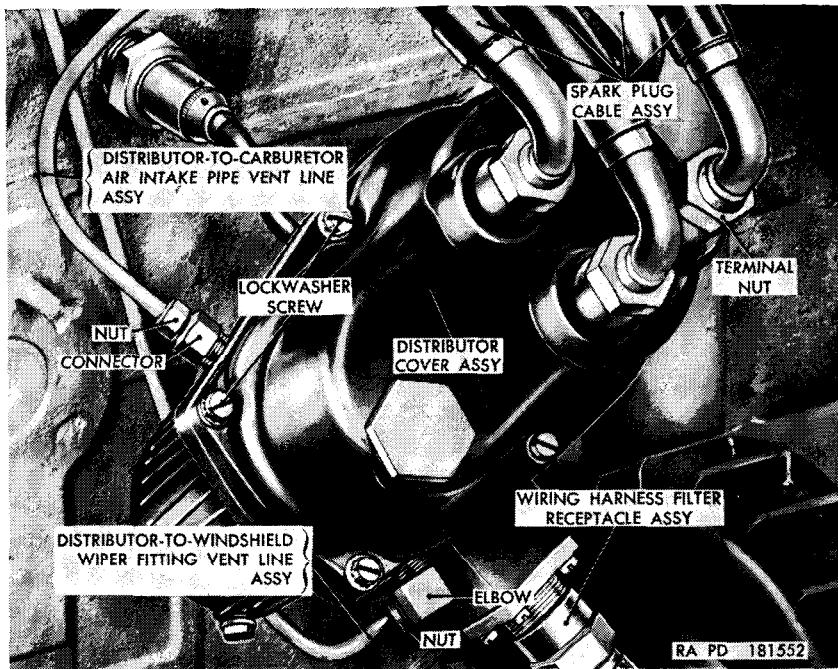
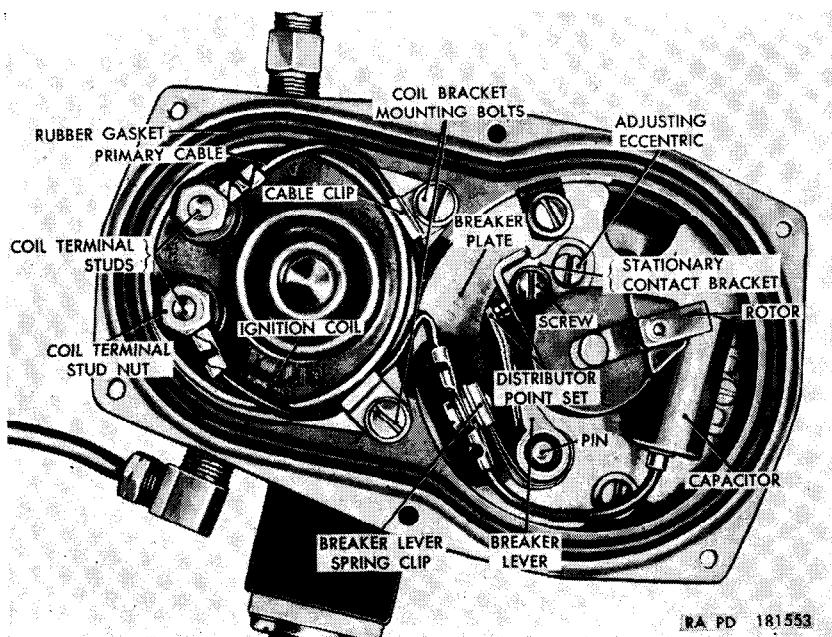
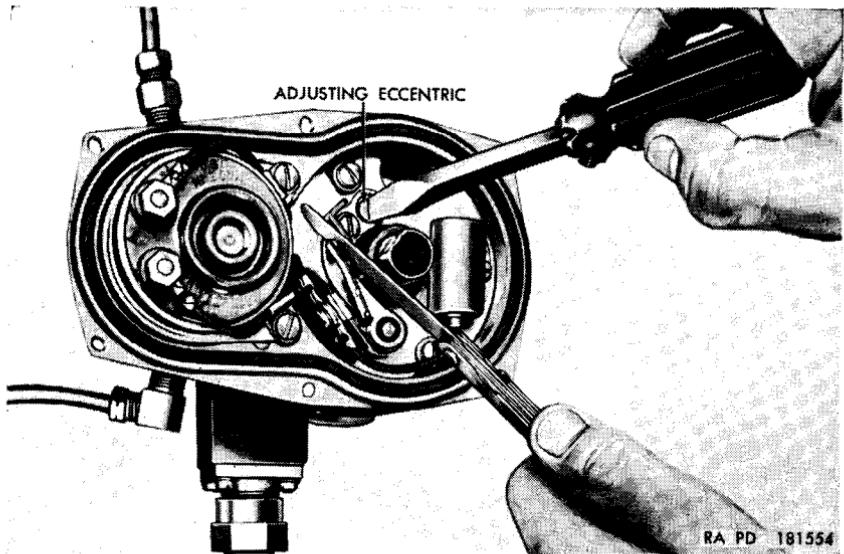

Figure 55. Distributor with coil assembly—installed.
Figure 56. Distributor with coil assembly—distributor cover and cap assemblies removed.
Figure 57. Adjusting distributor point set.
- (2) *Distributor with coil assembly* (fig. 55). The distributor, capacitor, and ignition coil comprise a single unit with automatic spark advance built-in to vary the ignition timing for most efficient operation. The assembly is located on the right side of the engine and is driven from the camshaft.
- (3) *Spark plugs.* The 14-mm spark plugs are shielded and waterproof, with built-in resistors for radio interference suppression.
- (4) *Spark plug cable assemblies* (fig. 55). The spark plug cable assemblies are fully shielded and waterproof, with threaded connectors on each end.
b. Mark the position of No. 1 spark plug cable assembly (fig. 55) on the side of the distributor with coil assembly, to aid in determining the position of the distributor rotor after the distributor cover and cap assemblies are removed.
c. Remove six lockwasher screws securing the distributor cover and cap assemblies (fig. 55) and remove the assemblies. Turn the crankshaft until the distributor points are open, with the breaker lever (fig. 56) on one of the four high points of the cam. Loosen the screw securing the stationary contact bracket to the breaker plate. Adjust the point gap by turning the adjusting eccentric (fig. 57) until a 0.020-inch feeler gage will enter between the points with a slight drag on the gage. Tighten the screw securing the stationary contact bracket to the breaker plate and again check the point gap.
d. On early production vehicles, turn the crankshaft with a crank, or suitable socket wrench, until the distributor rotor points to the mark (b above) and the timing mark "5 BTC" on the flywheel is alined with the pointer in the timing hole in the flywheel housing. On late production vehicles, aline the hole in the back of the fan and generator drive pulley (fig. 57) with the "5" mark on the timing gear cover (fig. 57).
f. Be sure that the rubber gasket (fig. 56) is seated in its groove. Position the distributor cover and cap assemblies over the gasket and secure with six No. 10 x $1\frac{1}{16}$ lockwasher screws (fig. 55).
(1) *Removal.* Remove the six lockwasher screws (fig. 55) securing the distributor cover and cap assemblies and remove the assemblies. Remove the three screws and lockwashers holding the distributor cap assembly to the distributor cover assembly and remove the cap. Do not lose the four cap sealing washers between the cover and cap assemblies.
b. Distributor Point Set (fig. 56).
- (1) *Removal.* Remove six lockwasher screws (fig. 55) securing the distributor cover and cap assemblies and remove the assemblies. Loosen the screw securing the breaker lever spring clip and slide the breaker lever spring up and out of the clip. Lift the breaker lever up and off the pin. Remove the screw securing the stationary contact bracket and remove the bracket.
- (2) *Installation.* Place the stationary contact bracket over the pin in the breaker plate, and over the adjusting eccentric. Install the No. 8 x $\frac{3}{16}$ screw securing the bracket to the plate, but do not tighten. Place the breaker lever onto the pin on the breaker plate and position the slot in the breaker lever spring over the screw, inside the breaker lever spring clip. Push the breaker lever onto the pin as far as it will go and tighten the screw securing the clip, making sure that the spring and terminals are alined.
c. Capacitor (fig. 56).
- (1) *Removal.* Remove the six lockwasher screws (fig. 55), and remove the distributor cover and cap assemblies. Loosen the screw securing the breaker lever spring clip, and lift the capacitor cable terminal from the screw. Remove the screw securing the capacitor to the breaker plate and remove the capacitor.
- (2) *Installation.* Position the capacitor on the breaker plate and secure it with one No. 6 x $\frac{3}{16}$ screw. Place the capacitor cable terminal on the screw securing the breaker lever spring clip and tighten the screw. Install the distributor cover and cap assemblies (par. 142f).
d. Rotor (fig. 56).
- (1) *Removal.* Remove the six lockwasher screws (fig. 55), and remove the distributor cover and cap assemblies. Lift the rotor up and off the cam.
- (1) *Removal.* In vehicles after serial No. 20601, unscrew and remove the six lockwasher screws (fig. 53) securing the distributor cover assembly to the distributor housing and remove the assembly. Loosen the nut (fig. 56) on the positive terminal of the ignition coil and remove nut, washer, and terminal of ignition coil primary cable.
Loosen the coil bracket mounting bolt securing the cable clip, for the primary cable, to the coil mounting bracket and remove bolt, lockwasher, and clip. Unscrew the nut (T, fig. 33) securing the primary cable to the wiring harness filter receptacle, and pull the cable from the receptacle. Remove the four lockwasher screws securing the wiring harness filter receptacle (fig. 55) to the distributor housing. Pull the receptacle assembly from the distributor housing, and separate the capacitor from the receptacle.
- a. *Removal.* Remove the six lockwasher screws (fig. 55) and remove the cover and cap assemblies. Remove the two coil terminal stud nuts, and lift the terminals from the studs. Remove the coil bracket mounting bolts and two cable clips. Lift the coil straight out and remove.
- b. *Installation.* Slide the coil into position, with terminals spaced as shown in figure 56. Place the cable terminals on the coil terminal studs. Arrange the cables as shown in figure 56 and secure each terminal with a No. 10 coil terminal stud nut and lockwasher. Place the cable clips in position to hold cables. Install one No. $10 \times \frac{7}{16}$ coil bracket mounting bolt, through each cable clip and hole in the coil bracket and into the hole in the distributor base. Install the distributor cover and cap assemblies (par. 142f).
- (1) *Removal.* Mark the spark plug cable assemblies for identification. Unscrew the terminal nuts (fig. 55) and disconnect the cables from the distributor cover assembly. Unscrew the terminal nuts and disconnect the cables from the spark plugs, and remove the cables.
- (2) *Installation.* Place the spark plug cable assemblies in position, with the long cable for No. 1 cylinder. Start the terminal nuts onto the threads on the spark plugs, but do not tighten until the cables are alined. Start the terminal nuts onto the threads on the distributor cover assembly (fig. 55), making certain that the correct firing order is maintained. Aline the cables at the distributor cover and spark plugs, to avoid kinks or sharp bends. Tighten the terminal nuts on both ends of the cables.
(fig. 55)